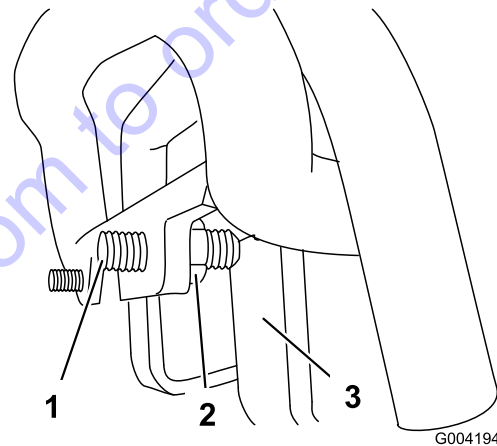

Figure 59
3. If the traction unit veers to the **left**, loosen the **right** jam nut and adjust the tracking set screw on the front of the traction control (Figure 59).
4. If the traction unit veers to the **right**, loosen the **left** jam nut and adjust the tracking set screw on the front of the traction control (Figure 59).